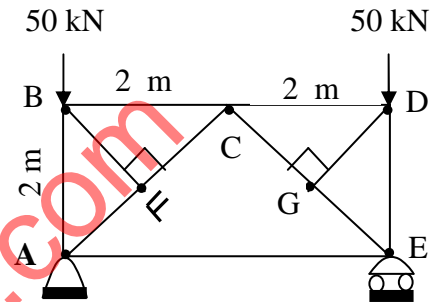

Fig.7 Q-4 (b) OR
- (b)** Locate zero force members in truss shown in the fig.7. Also find axial forces in remaining members. **05**